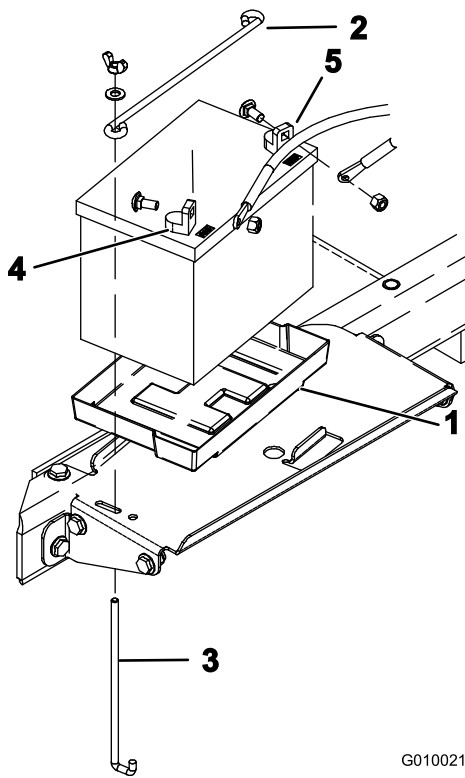

Figure 14
- Assemble the battery into the tray in the battery compartment (Figure 14). Position the battery so that the terminals are aligned the outward.